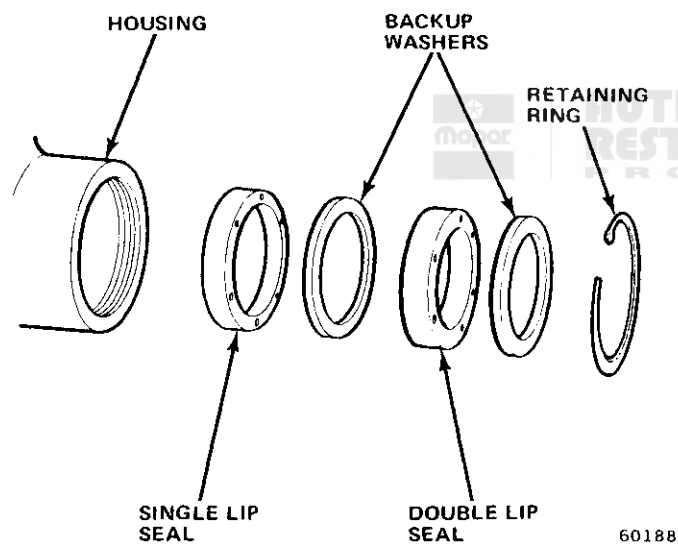

Fig. 2L-10 Pitman Shaft Seals and Backup Washers
(6) Stop engine and remove seals and backup washers from pitman shaft.
(7) Inspect outer diameter of seals for damage. If scored or cut, inspect housing bore for burrs and nicks. Remove any burrs or nicks, before installing replacement seals, using crocus cloth.
(8) Inspect pitman shaft surface for roughness, pitting, scoring, rust, or nicks. Clean dirt, rust corrosion from shaft seal surfaces using crocus cloth. Replace shaft if pitted or severely corroded.
(9) Lubricate replacement seals and shaft surfaces with power steering fluid.
(10) Apply single layer of thin tape to pitman shaft splines to avoid cutting seals.
(11) Insert single lip seal in bore first; then insert backup washer (fig. 2L-10).